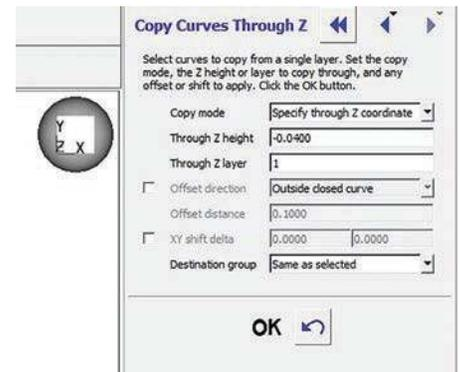

Figure 6: Extending the outer perimeter model contour to the build sheet using the Copy Curves Through Z options.
STEP 8: From the **Edit** menu, select **Copy Curves Through Z** to extend the outer perimeter model contour down to the build sheet. Change the **Copy mode** to **Specify through Z coordinate**. Enter the desired value into the **Through Z height** field (in this case: -0.0400). Change the **Destination group** to **Same as selected** (Figure 6).